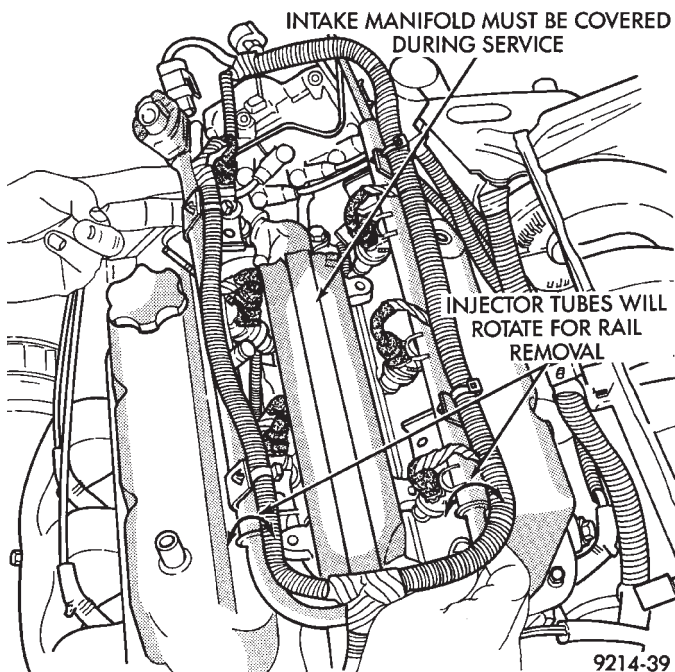

Fig. 14 Fuel Rail Removal
(20) Remove fuel rail. Be careful not to damage the injector O-rings upon removal from their ports (Fig. 14).
(1) Ensure injector holes are clean. Replace O-rings if damaged.
(2) Lubricate injector O-rings with a drop of clean engine oil to ease installation.
(3) Put the tip of each injector into their ports. Push the assembly into place until the injectors are seated in the ports (Fig. 14).